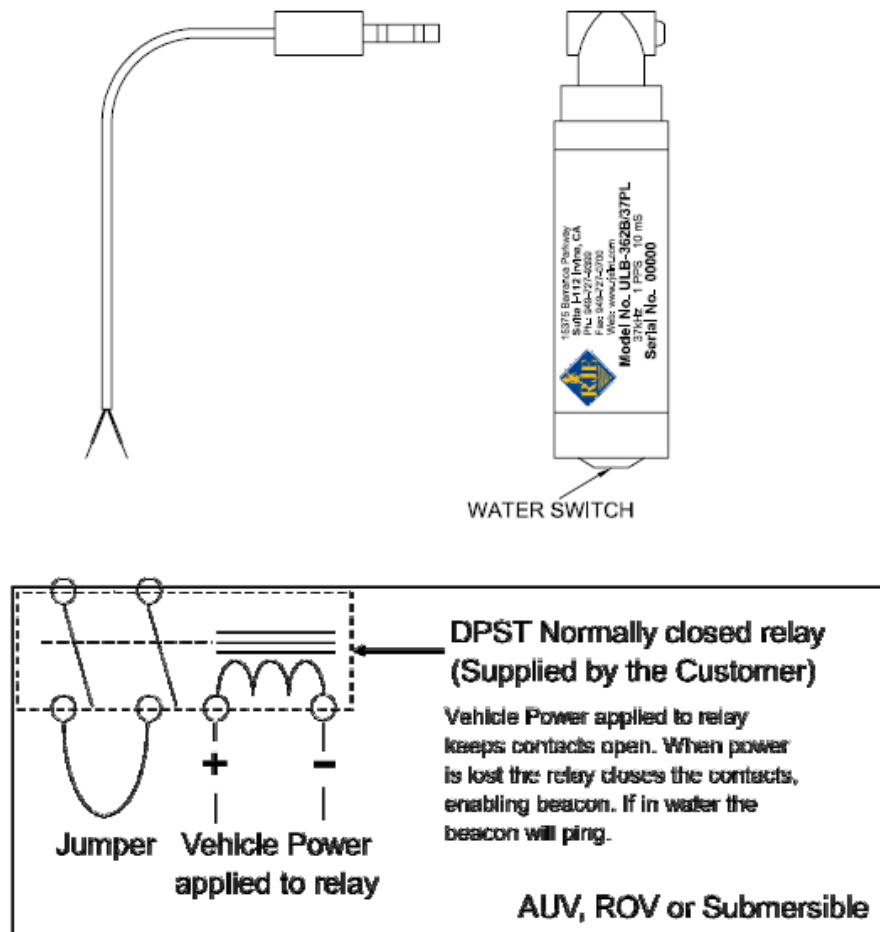

Figure 3-4 Wiring Diagram of the ULB-362PL/B37
Figure 3-4 Wiring Diagram of the ULB-362PL/B37	8
1. Place the clip for the test set on the housing of the beacon as shown in Figure 3-4. If using the B362-05591 channel mount, it is not necessary to remove the beacon to conduct the test.